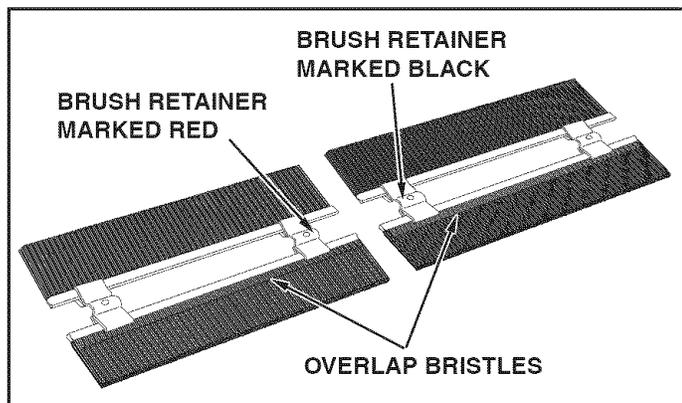

FIGURE 1
- Each brush assembly has one brush retainer marked with either red or black ink. Lay out the brush assemblies as shown so that the brush retainers marked with ink are in the middle with the black one on your right and the red one on your left. See figure 1.